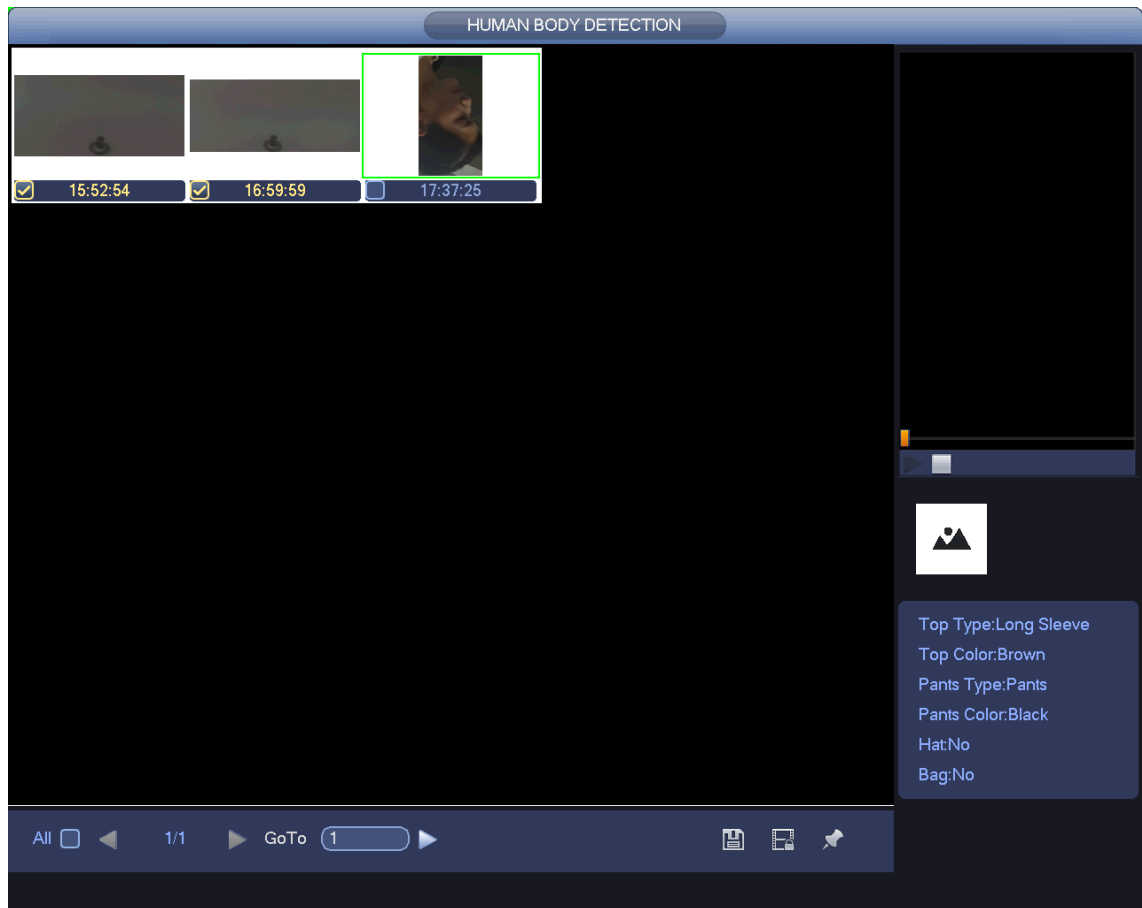

Figure 4-112
- Step2 Select Channel, Start Time and End time. Select the human details according to actual needs, such as Top Type, Top Color, Pants Type, Pants Color, Hat and Bag. Click Smart Search. The search results are displayed. See Figure 4-112.